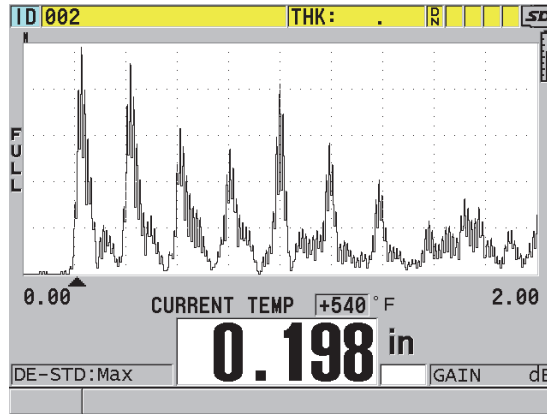

Figure 10-19 Displaying temperature compensation data
4. Press [MEAS] to return to the measurement screen with the activated temperature compensation (see Figure 10-19 on page 178). The measured thickness is temperature-compensated based on the **CALIBRATION TEMP**, the **CURRENT TEMP**, and the **TEMP COEFFICIENT** parameter values.